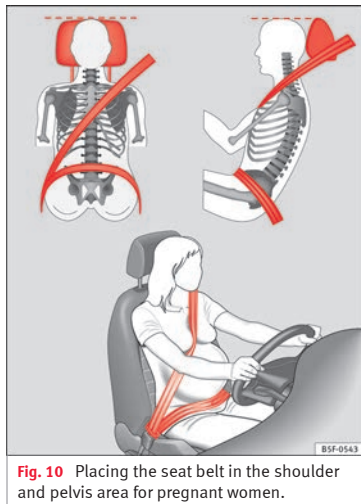

Fig. 10 Placing the seat belt in the shoulder and pelvis area for pregnant women.
- The shoulder part of the seat belt must lie on the centre of the shoulder, never across the neck. The seat belt must lie flat and snugly on the torso » Fig. 10.
- The lap part of the seat belt must lie across the pelvis, never across the stomach. The seat belt must lie flat and snugly on the pelvis » Fig. 10. Pull the belt tight if necessary to take up any slack.